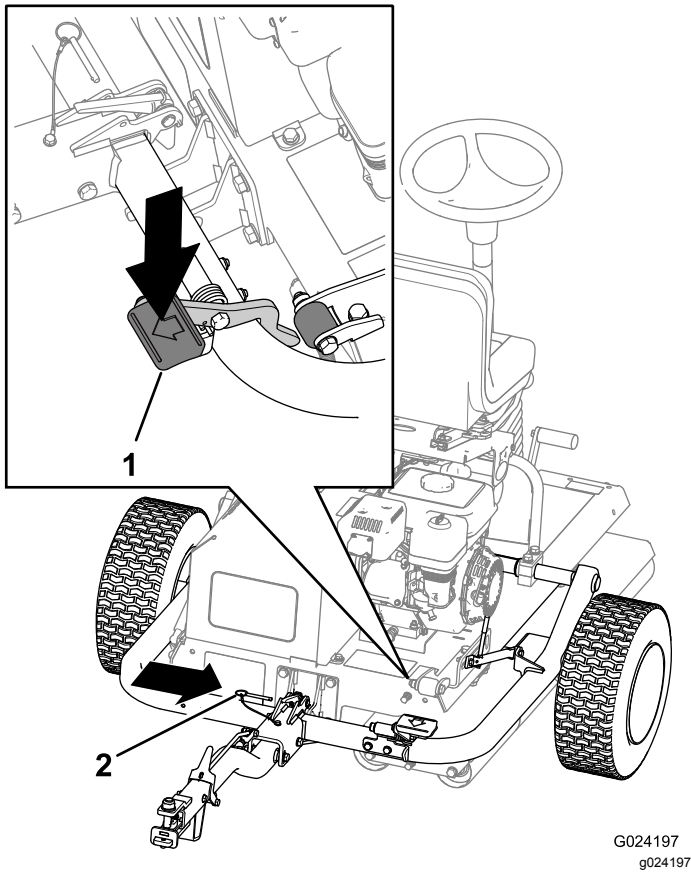

Figure 8
6. Step on the hitch pedal until the hitch locks into place (Figure 8).
7. Insert the locking pin (Figure 8).